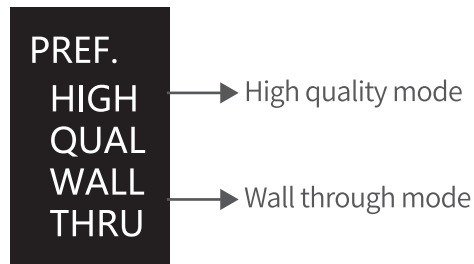

Fig.8
1. The menu content of transmitter and receiver is different: Quality mode and wall through mode can only be selected in transmitter, see fig.8